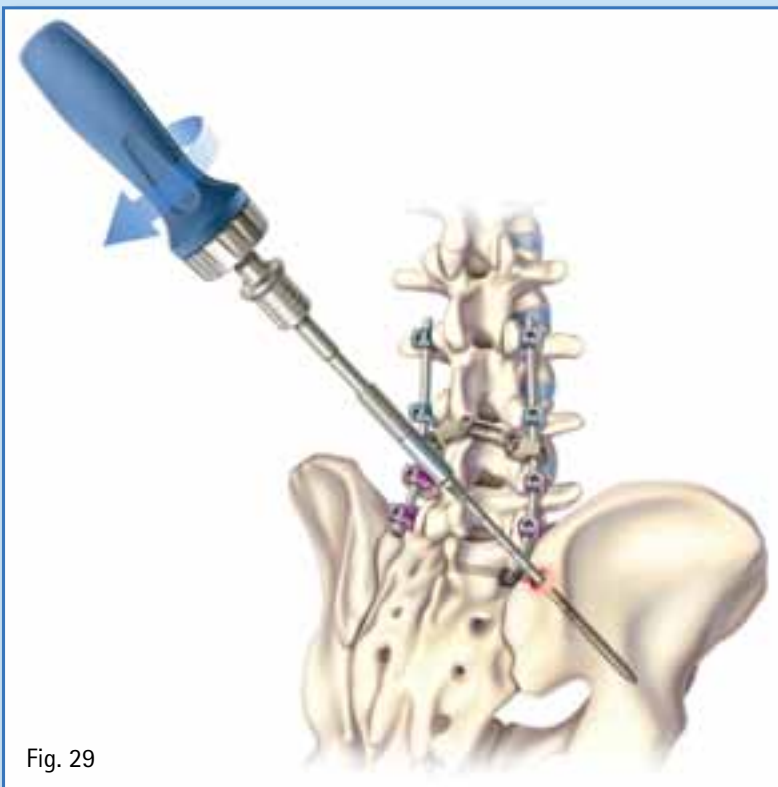

Fig. 29
- Tap canal and identify depth with the desired 7.0 mm extended screw tap (FW497R) or 8.0 mm extended screw tap (FW498R), and choose screw length. (Fig. 29)